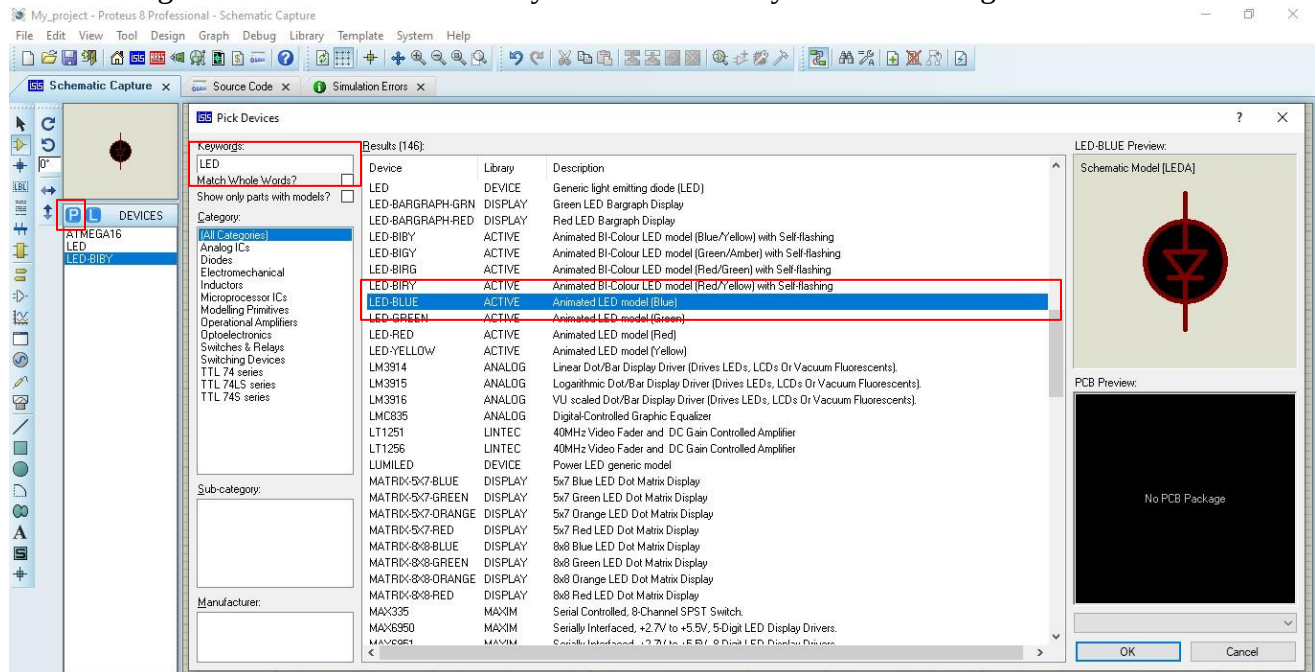
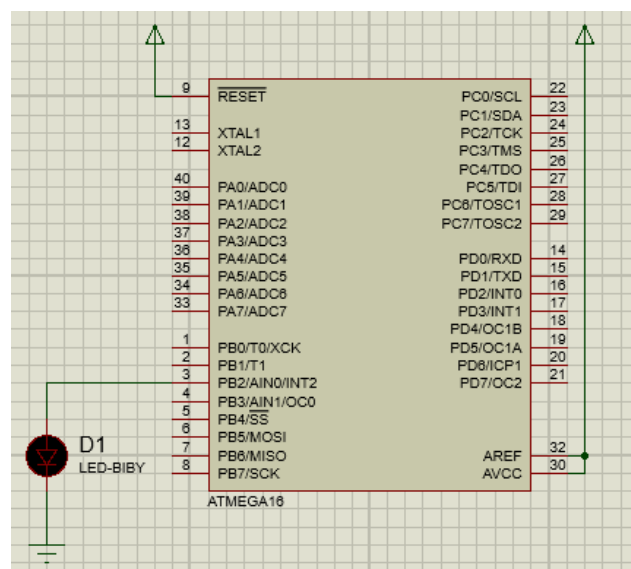

Figure 8: Pick Device and Components
Figure 9: Required Schematic Diagram
- In the left corner, there should be a label named device. Click on P button and under the Keywords block, type LED, click any color LED you want to add Double click on it as shown in figure 8. It should be added in your device list as you can see in figure 9.
- Click on LED and place anywhere you want to. For ground, there is an option in left side called terminal mode. Select ground and place anywhere you want to. Draw the schematic as shown above figure 9.